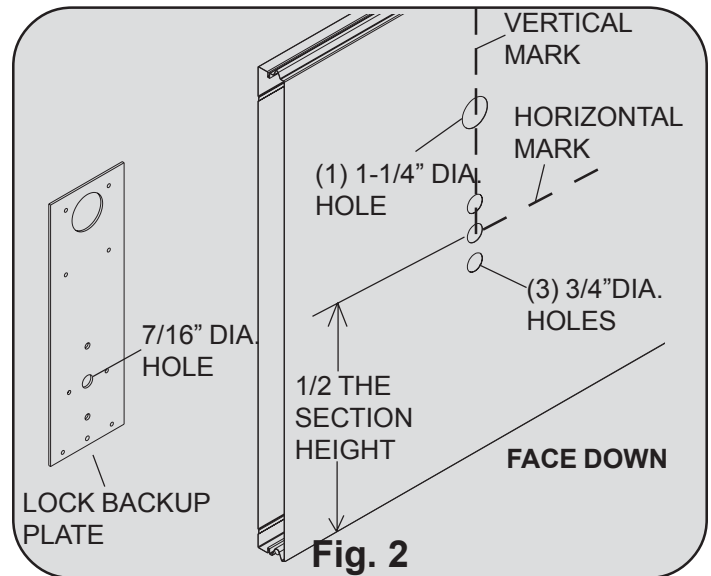

Fig. 2
8300/8500 Series & Wood doors (see Fig.2), place the lock section face up on (2) padded sawhorses for a single car door or (3) padded sawhorses for a double car door. Locate the middle of the center stile, measure the distance from the end of the section to the middle of the center stile. Turn the section face down, transfer the measurement and mark a light vertical line, then mark a horizontal line at half the section height. Align the 7/16" diameter hole of the lock backup plate at the intersection point of the horizontal and vertical marks, use the lock backup plate as a template to mark the (4) holes, remove the lock backup plate and drill the (3) bottom holes to 3/4" diameter and the top hole to 1-1/4" diameter, drilling all (4) holes completely through the section.